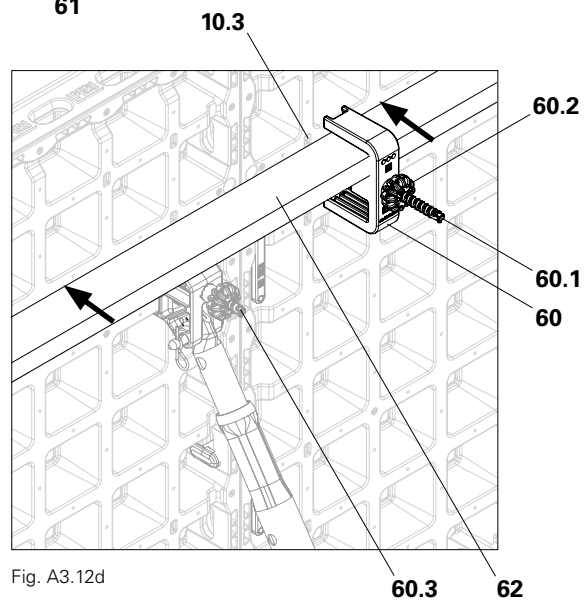

Fig. A3.12d
3. Tighten the DUO timber connector (**60**) with the DW 15 grip (**60.2**). (Fig. A3.12d)
The DUO timber holder (**60**) is only correctly installed if the securing pin (**60.3**) has the same alignment as the connection points (**10.3**). (Fig. A3.12d)